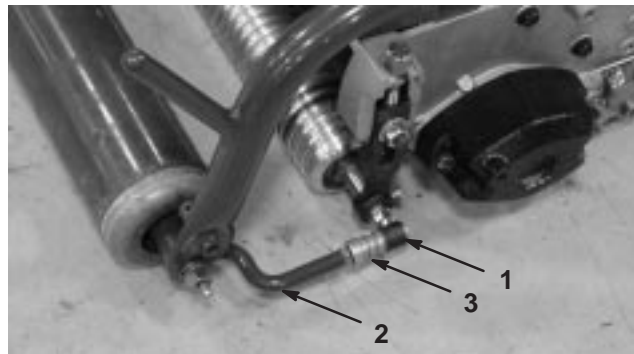

Figure 12
6. Align the sockets in the ball joints so the open side of the socket is centered towards the ball stud. Tighten the jam nuts to secure the sockets in position (Fig. 12).